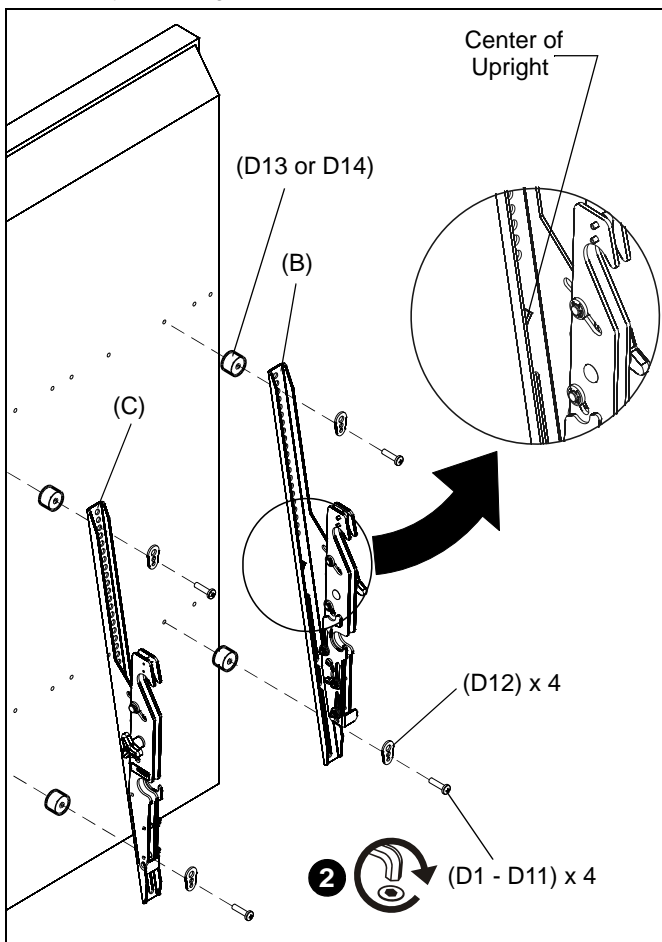

Figure 5
1. Vertically align the center of the uprights (B and C) with center of screen. (See Figure 5)
2. Select correct screws, spacers (if necessary) and washers from the hardware bag (D) and attach brackets to back of display. (See Figure 5)